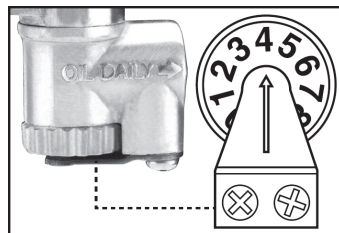

Fig. 1
2. Snap the socket or accessory over the retaining ring nested in the square drive anvil (A).
4. Set the anvil's rotational speed by turning the air regulator dial (D) (Fig. 1). The dial's numbers from 1 to 8 indicate range from lowest to highest speed. Turn the dial to 8 for maximum power.
5. Place the socket over the fastener, grip the impact wrench firmly with both hands and gently push down on the Forward/Reverse Trigger Switch (C).